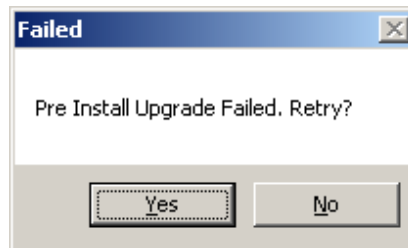

Figure 19
**Note 2:** If the Upgrade process fails at any point, the following message window will be displayed. See Figure 19 below: